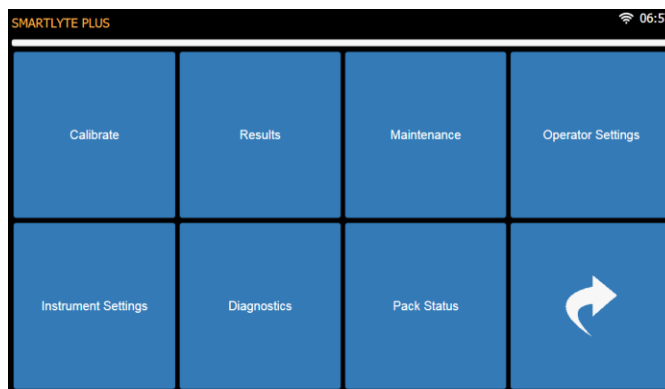

Figure 8-4 Main Operations
- Press **[RESULTS]** button on Main Operations (Figure 8-4) or Sample Measurement Menus (Figure 8-8)